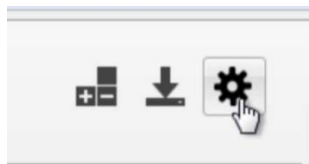

Figure 12. Settings Icon
1. Click the Settings icon (Figure 12) on the top right-hand corner of the Simplicity perspective to open the Preferences window.